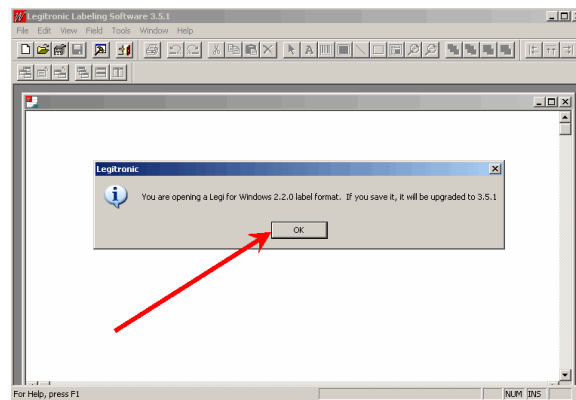

Figure 50
60. Click OK when the message “You are opening a Legitronic Labeling Software for Windows 2.2.0 label format. If you save it, it will be upgraded to 3.5.1” appears. (Figure 50)